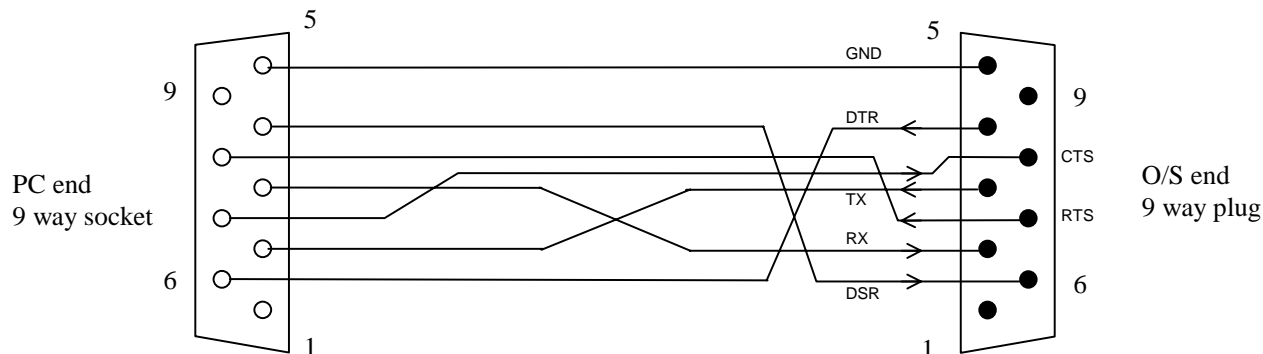

Figure 50 - Cable for Engineer's Terminal
- 1 x RS232C 9 way serial port with cable connections defined in Figure 50 below.